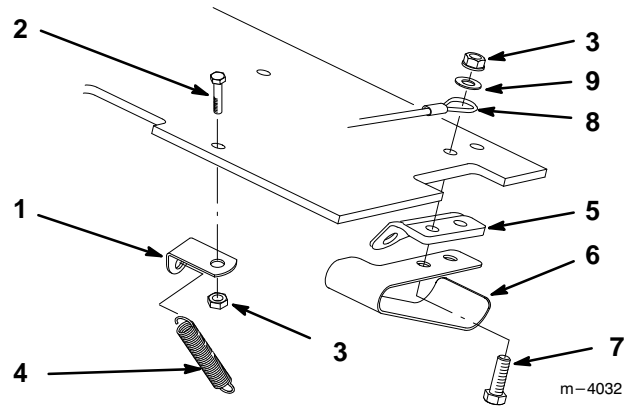

Figure 1
1. Remove the existing spring and spring bracket from below the traction unit control plate (Fig. 1). Save the spring bracket for use on the chute.
2. Attach the new, long spring bracket below the traction unit control plate with the existing bolt in the front left hole, down from the top, and secure it with the existing locknut (Fig. 1). Hook the chute spring into the bracket.
3. Remove the existing hardware from the left brake bracket below the traction unit control plate (Fig. 1).
4. Attach the guard, below the brake bracket, with a new 3/8–16 x 1-1/4" (32 mm) bolt in the front hole. Include the cable and secure with the existing washer and locknut above the control plate. Use the existing rear bolt and locknut (Fig. 1).